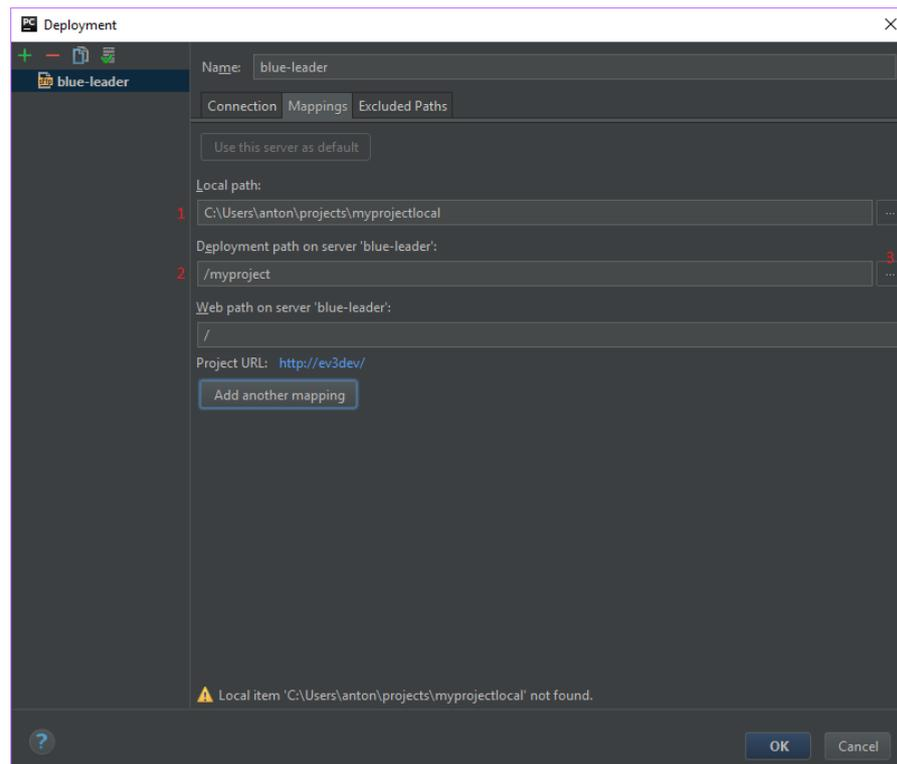

Figure A.9: It is possible to choose a deployment folder.
- (1) Host name of deployment server, ev3dev.
- (2) Deployment server user name, robot.
- (3) Deployment server password, maker.
- (4) Test deployment server setup.
- (5) Autodetect root folder.
In the *Mappings* tab, Figure A.9, the *local path* (1) has already been set, assuming the correct project was open when starting the setup process. *Deployment path...* (2) can be used if deployed files should be placed in a specific folder on the EV3, hitting the button with three dots (3) opens a view of available folders on the EV3.